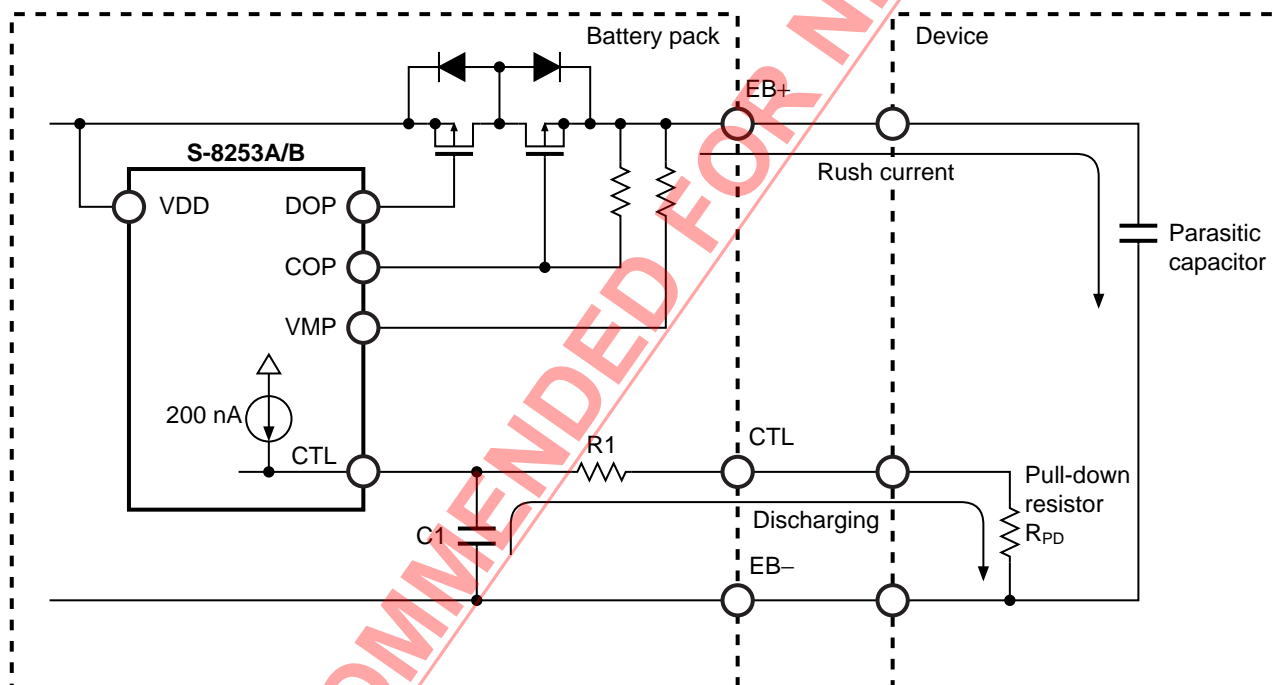

Figure 15
- In case of designing a circuit by using the CTL pin, as seen in **Figure 15**, note that discharging may stop during connecting a battery pack and the device.
As seen in **Figure 15**, before a battery pack is connected to the device, the battery pack may be in the charge / discharge inhibited status in which the CTL pin is internally pulled-up. From this status, if connecting the battery pack to the device, the CTL pin will be pulled-down in a time-constant $C1 \times (R1 + R_{PD})$ by a pull-down resistor in the device. If the CTL's potential reaches $V_{CTLH} < V_{CTL} < V_{CTLLH}$, the battery pack goes in the delay time-shortening status so that it releases charging and discharging, hence it starts charging a parasitic capacitor in the device. In this case, if the rush current, which makes the S-8253A/B Series to detect the overcurrent detection voltage 3 (V_{IOV3}), flows into the device, the overcurrent detection delay time 3 ($t_{IOV3} = 300 \mu s$ typ.) will be shortened. So that the battery pack goes in the overcurrent status in several $10 \mu s$. However, the battery pack goes in the normal status by connecting the device to the charger.